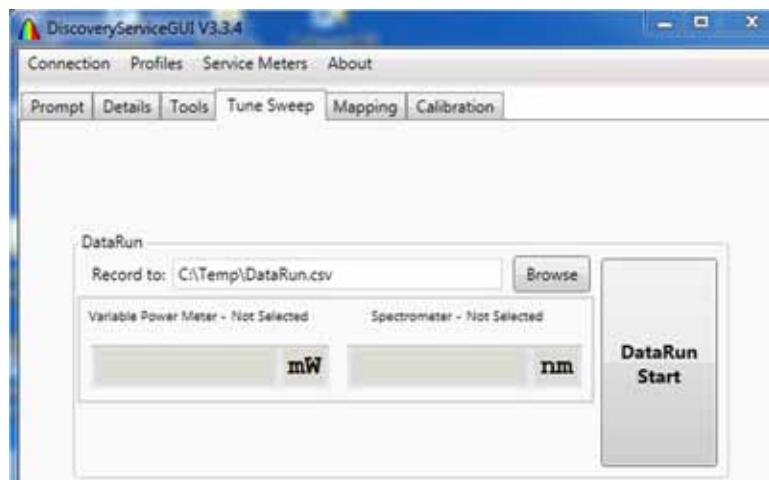

Figure 1.2-21. Tune Sweep Menu
3. Go to the Tune Sweep tab and select a desktop location to save the file. See Figure 1.2-21.